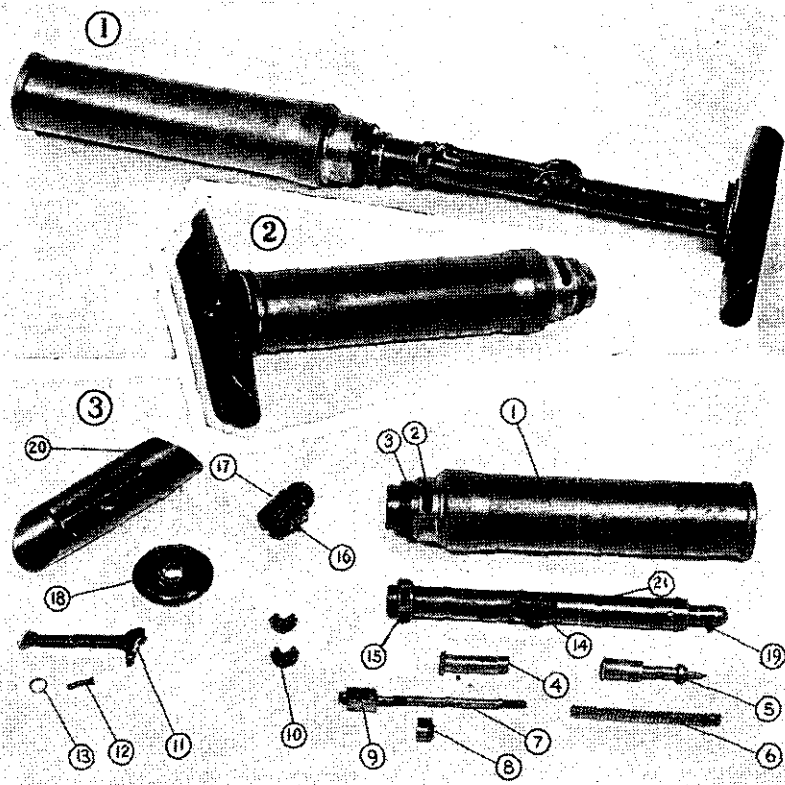

Figure 43.—Three views of Model 10 (1921) 50-mm grenade discharger: ① assembled, ② assembled for carrying, and ③ disassembled.
(2) *Stripping.*—The following procedure will permit a complete disassembly of the weapon (see fig. 43):
(3) *Assembly*.—To assemble the weapon, proceed in the reverse order to that followed in stripping. The weapon may, however, be assembled to the carrying position as shown in figure 43②, by unscrewing the pedestal adapter from the barrel and inserting the pedestal into the barrel. The threaded section of the adapter screws into the base of the barrel from the inside of the barrel, and the muzzle cap screws into the barrel, completely enclosing the interior of the barrel and protecting it from foreign material. The weapon is then in a compact assembly for carrying.